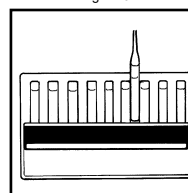

Figure 7
- b. **High Range Comparator (fig. 7):**